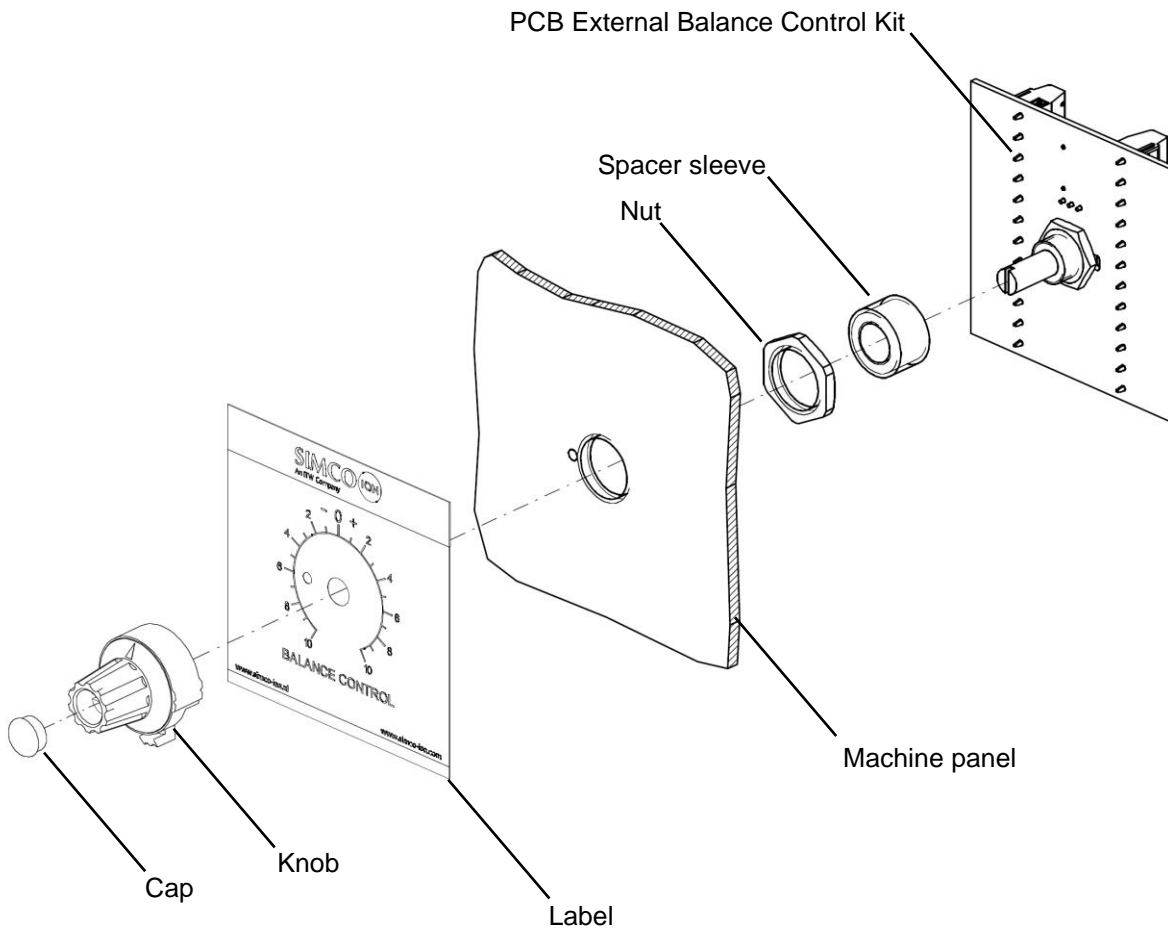

Fig. 4, assembly External Balance Control Kit MPM
- Mount the Control Kit behind the panel with the supplied mounting material as shown in figure 4. The Control Kit can only be wired for installation (see chapter 5.3).